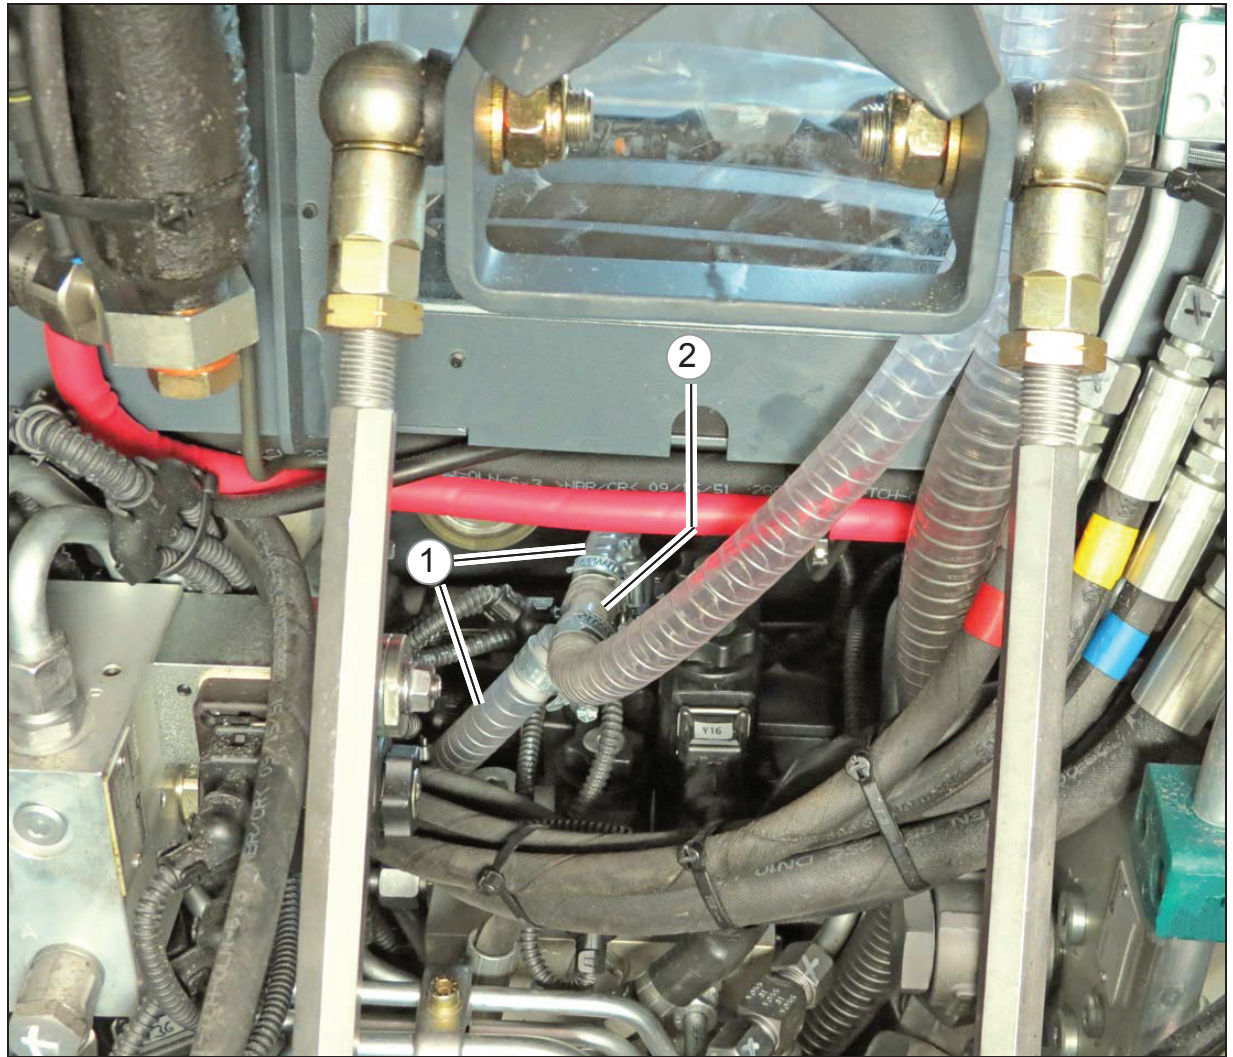

Fig.3
5. Cut open the fresh water hose (Fig. 3/1) installed beneath the driver's cab and use hose clamps to fit the T-union (Fig. 3/2) to both ends.
Note: The image displays the already cut open fresh water hose (Fig. 3/1) beneath the driver's cab.